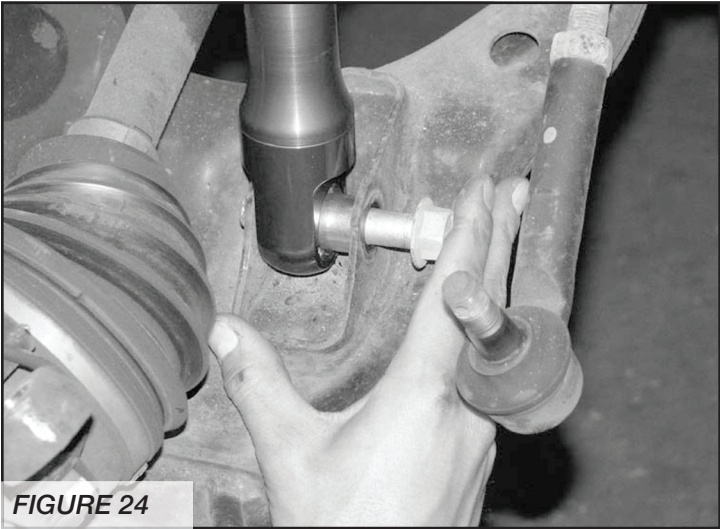

FIGURE 24
14. Install the rod end at the bottom of the shock into the lower control arm with the larger misalignment to the front of the Vehicle. Reinstall the factory bolt into the lower mount. Torque 100 Ft-lbs. **SEE FIGURE 24**